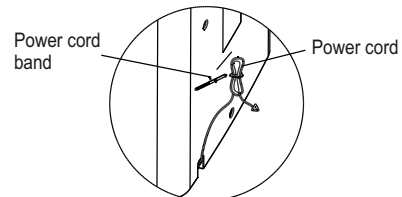

Fig.16
- Wrap the cord and bundle it with the band(see Fig.16).